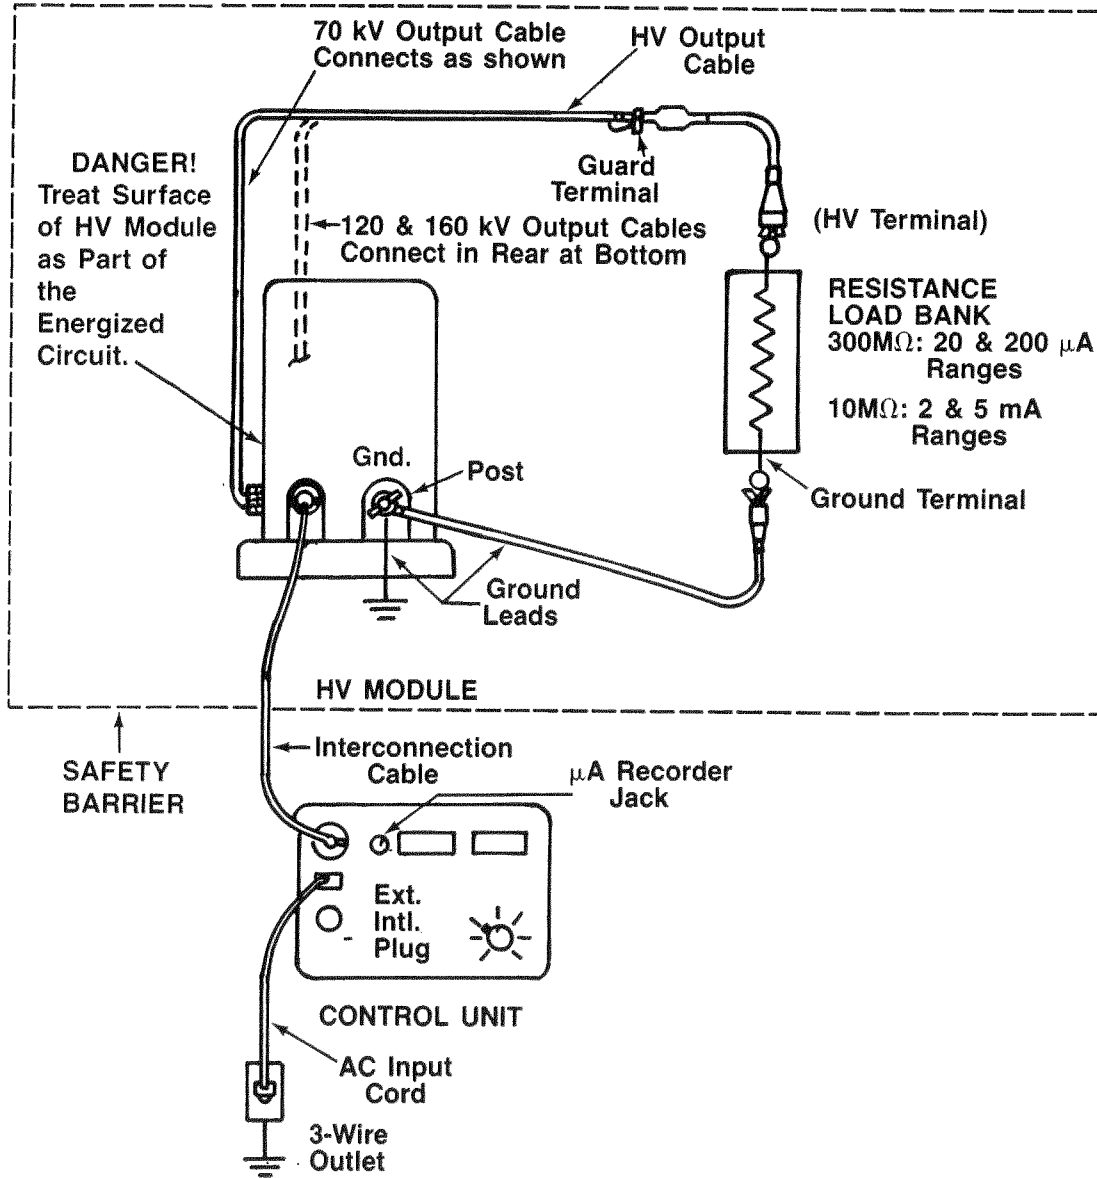

Figure 10: Dielectric Test Set Current Meter Calibration.
2. Connect the test set to the appropriate value resistive load bank as illustrated in Figure 10. Observe the setting up procedure described in Section F.